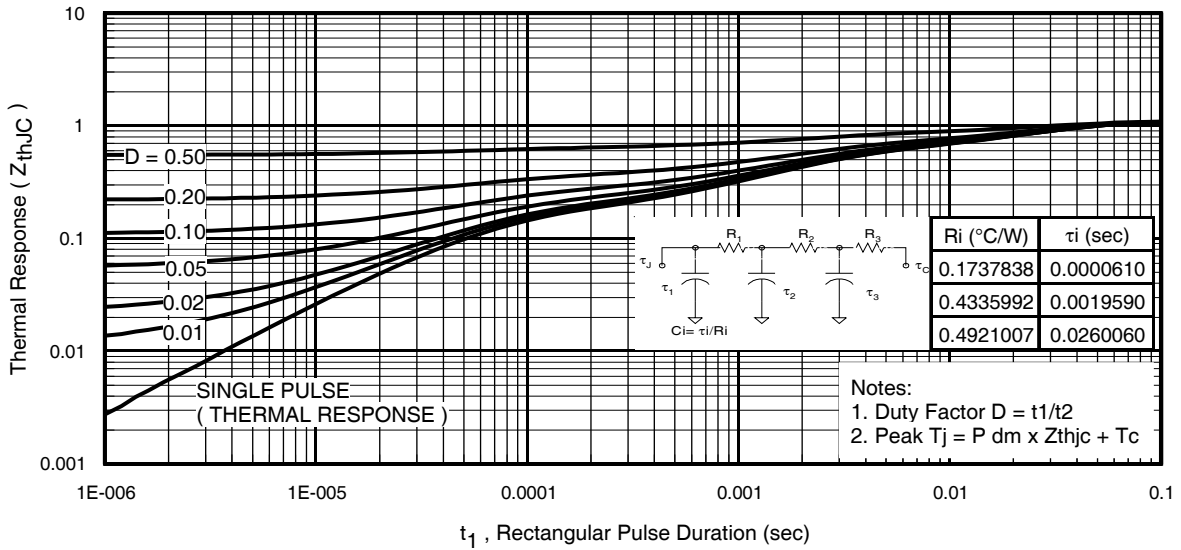

Fig 11. Maximum Effective Transient Thermal Impedance, Junction-to-Case
- ① Repetitive rating; pulse width limited by max. junction temperature. (See Fig. 11)
- ② Starting $T_J = 25^\circ\text{C}$, $L = 0.88\text{mH}$